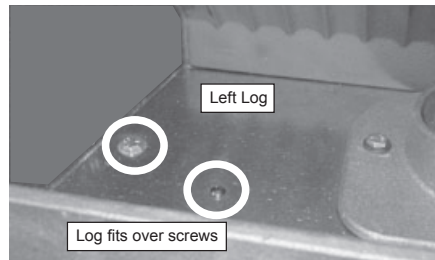

Figure 20.4
1. Place the left log as shown. There are 2 indentations in the bottom of the log to fit over the screw heads in the firebox. **Figures 20.4 & 20.5**